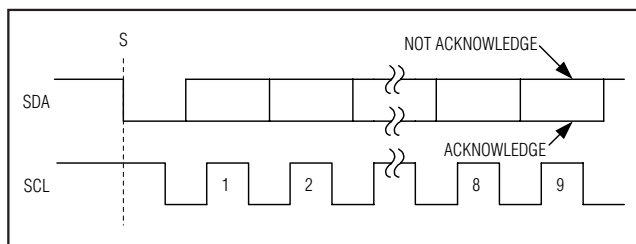

Figure 6. Acknowledge Bits
Data transfers are acknowledged with an acknowledge bit (A) or a not-acknowledge bit ($\bar{A}$). Both the master and the MAX11612–MAX11617 (slave) generate acknowledge bits. To generate an acknowledge, the receiving device must pull SDA low before the rising edge of the acknowledge-related clock pulse (ninth pulse) and keep it low during the high period of the clock pulse (Figure 6). To generate a not-acknowledge, the receiver allows SDA to be pulled high before the rising edge of the acknowledge-related clock pulse and leaves SDA high during the high period of the clock pulse. Monitoring the acknowledge bits allows for detection of unsuccessful data transfers. An unsuccessful data transfer happens if a receiving device is busy or if a system fault has occurred. In the event of an unsuccessful data transfer, the bus master should reattempt communication at a later time.